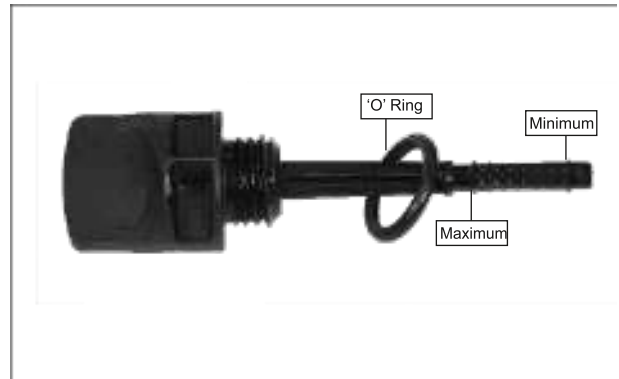

Fig. 2.10
- The oil should be between the minimum and maximum marks on the gauge oil level.(Fig. 2.10)